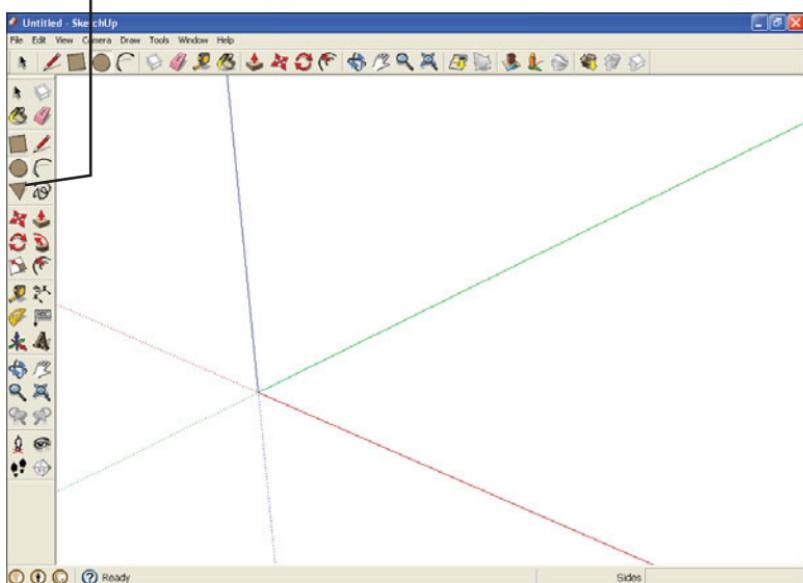

FIGURE 3.5 The large toolset toolbar containing the Polygon tool.
2. Select the **View, Toolbars, Large Tool Set** menu item. This will open the large vertical toolbar you see on the left in Figure 3.5.
3. Click the **Polygon tool** in the large toolbar (shown in Figure 3.5).